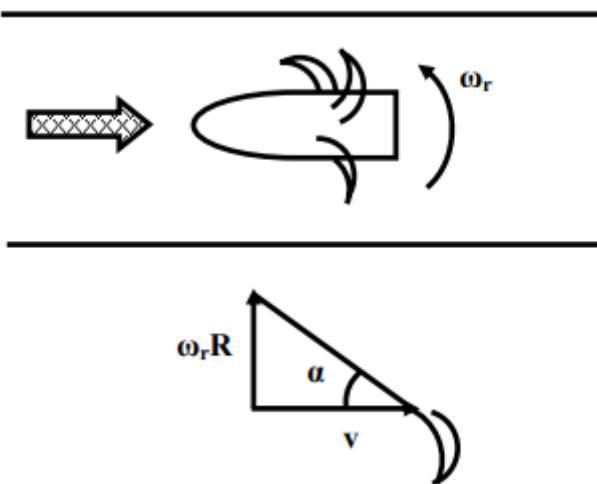

Fig. 11 Turbine type flowmeter
- A rotating shaft with turbine type angular blades is placed inside the flow pipe. The fluid flowing through the pipeline will cause rotation of the turbine whose speed of rotation can be a measure of the flowrate. Referring fig.11, let blades make an angle α with the body. Then,